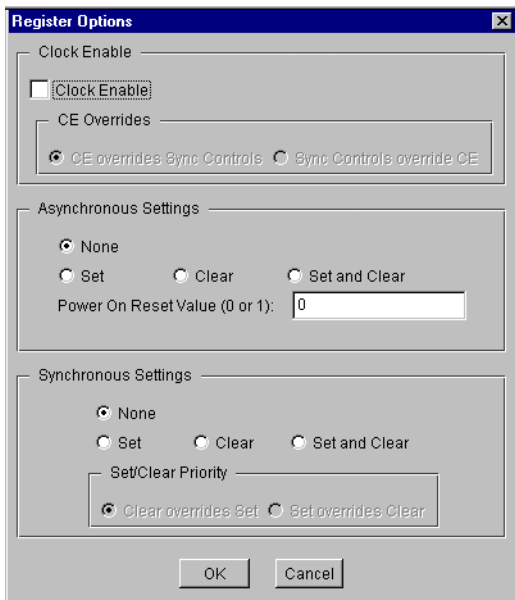

Figure 2: Bit Multiplexer Register Options Parameterization Screen
- **Register Options:** This button is only enabled when a registered output has been requested via the Output Options. Clicking on this button brings up the Register Options parameterization screen (see figure 2).
The Register Options parameterization screen for this module is shown in Figure 2. The parameters are as follows: